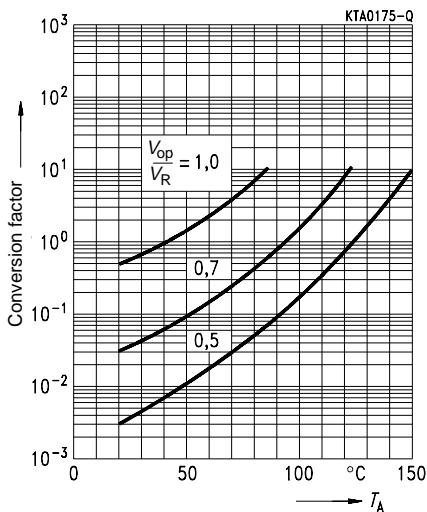

Fig. 2 Conversion factors for the failure rate
- with decreasing operating temperature (cf. paragraph 5.3 and figure 2)
Conversion factors for taking into account the effects of ambient temperature and operating voltage on the failure rate within the service life can be deduced from the table below or from the graph in figure 2 (guideline values).
figure 2 on page 71. The same value is obtained from the table on page 70 by multiplying  $\pi_V \cdot \pi_T$ .